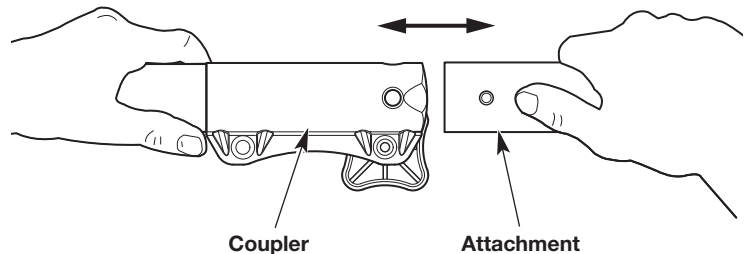
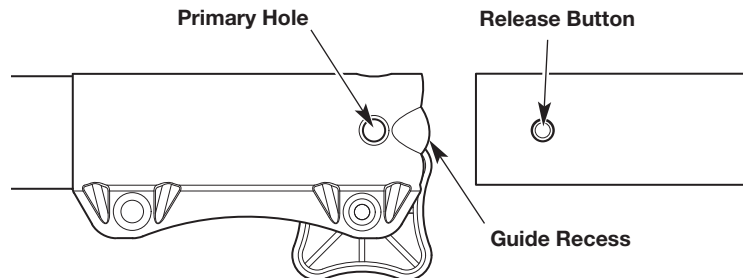

Fig. 4
Fig. 5
4. Align the release button with the guide recess (Fig. 5).
5. Push the attachment straight into the coupler (Fig. 4) until the release button snaps firmly into the primary hole (Fig. 5).
3. Press and hold the release button (Fig. 5).
4. Pull the attachment straight out of the coupler (Fig. 4).